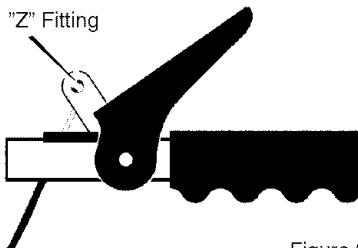

Figure 32
**To check for correct adjustment, unhook "Z" fitting at clutch lever (see Figure 32).**
11. Install the "Z" hook to the **traction drive lever** (see Figure 32).
5. Disconnect the "Z" fitting from the **drive lever** (see Figure 32).